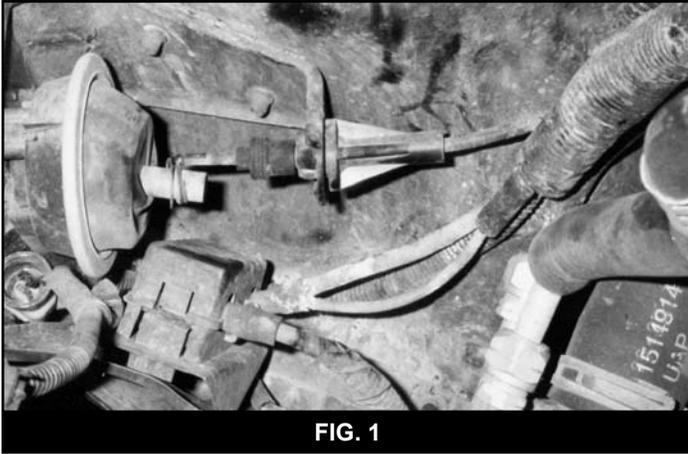

FIG. 1
2. Disconnect and remove the battery and battery tray. Disconnect the spring clip and remove the cable from the 4WD vacuum actuator. Disconnect the vacuum cable clamp at the frame. (Fig. 1)
18. Support the differential with a floor jack. Disconnect the electrical connector and wire clip from the center of the differential. Disconnect the vent hose from the driver's side of the differential. Disconnect the fasteners that attach the differential to the chassis and remove the differential from the vehicle. **Note: When lowering the front differential, make sure that the actuator cable (see Fig. 1) does not become entangled.**